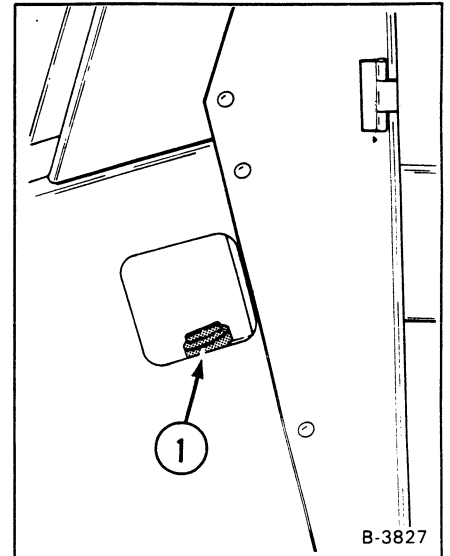

Fig. 1–10 Fuel Fill Location
(2) Use clean fuel of the correct specification from a clean, approved safety container. Fill the tank only in an area that has a free movement of air and no open flames or sparks (Fig. 1–11).
(3) The cap must be clean before it is installed on the fuel tank and tightened (Fig. 1–9, Item 1).
The fuel filter is at the front left of the engine (Fig. 1–12). See the Service Schedule (Page 1–1) for the service interval for the water trap and the fuel filter element.
(1) If there is water in the trap at the bottom of the filter, loosen the thumb screw (Fig. 1–12, Item 1) to remove the adapter.
(2) Tighten the thumb screw after all the water is removed.